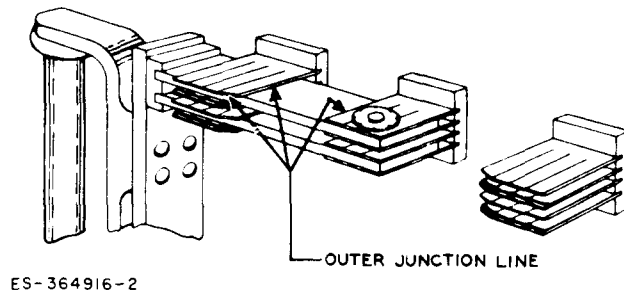

Fig. 2—Junction Line Between Blade and Clip
- (b) On switches of 30-ampere capacity or greater, in the fully closed position, a 0.0015-inch gauge shall not enter at the accessible outer junction line (Fig. 2) to the extent of the following minimum percentages of junction line lengths.